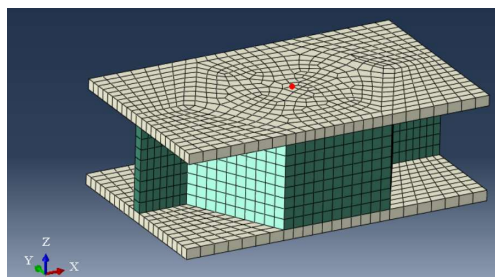

Fig.4 Micro-structure (M00)
(10) In order to control the rigid body displacement of the RVE, a point on the RVE must be constrained. Here, select M00 point on the panel, as shown in Fig.4.